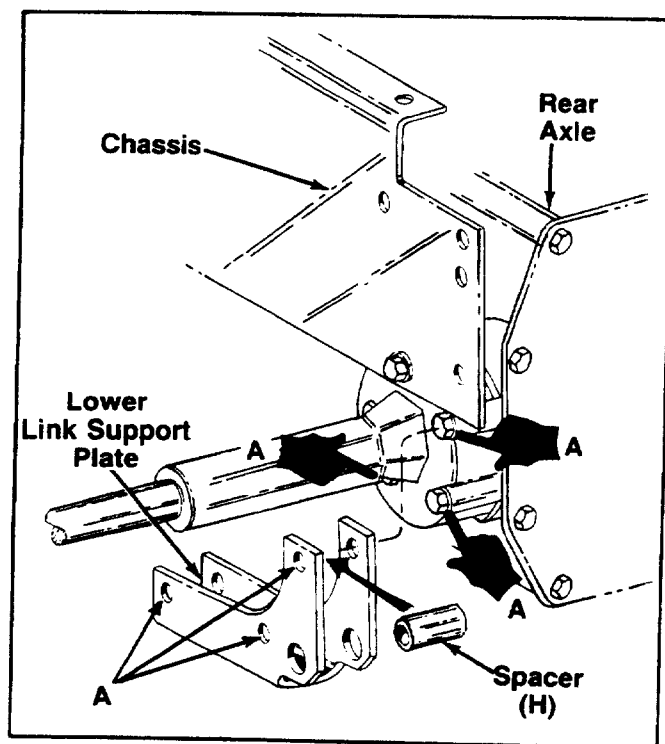

FIGURE 14.
25. Remove existing bolts (A) (3 each side) and wave washers from horn assembly on rear axle. See figure 14. Retain wave washers and discard bolts.